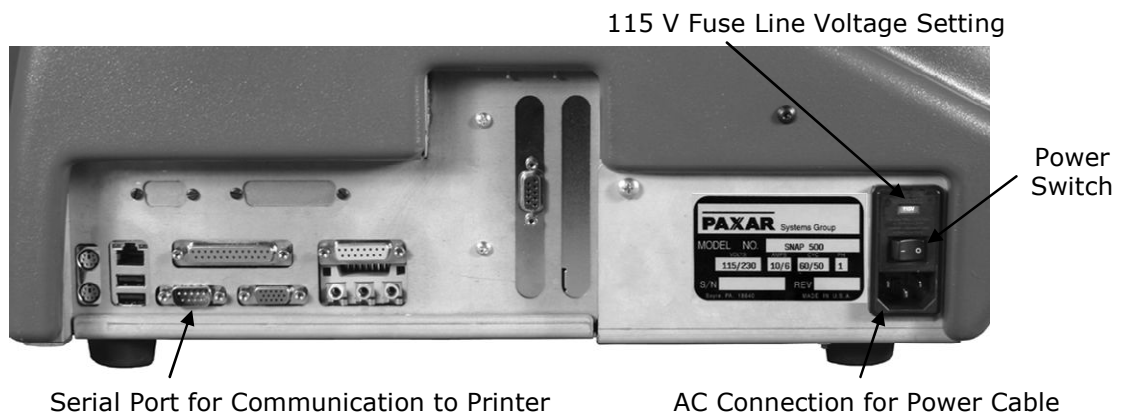

Figure 6. Rear View of the Printer
1. Locate the communication cable connectors on the backside of the printer (see Figure 6).